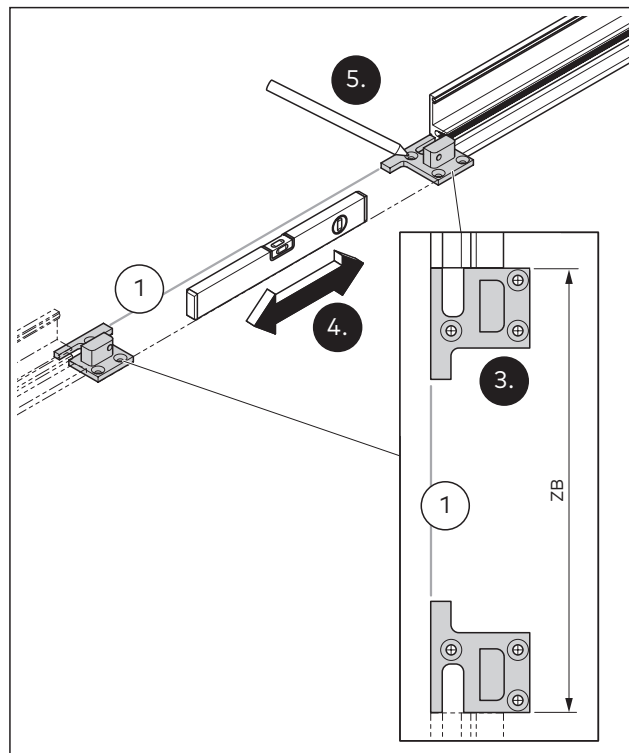

Fig. 18 Align the door frame positioners
- Align the door frame positioners according to the door frame width (FW) and flush with the unit's alignment on both sides of the passage opening (Fig. 18).